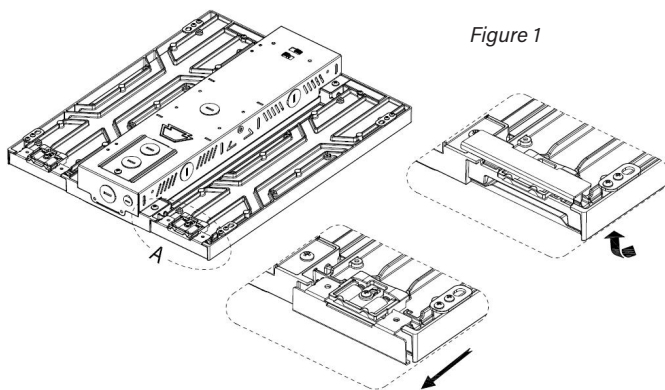

Figure 1
- Push the retaining clasp with your finger to open the lens retaining plate in a rotating manner so that it falls into the slot of the heatsink. (Figure 1)